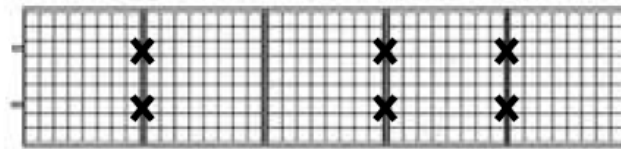

Figure 7D: Image of IlSCO Ground Lug attached to Solar Module
- 3) IlSCO ground lay-in lug PN GBL-4DBT or equivalent. (Figure 7D)